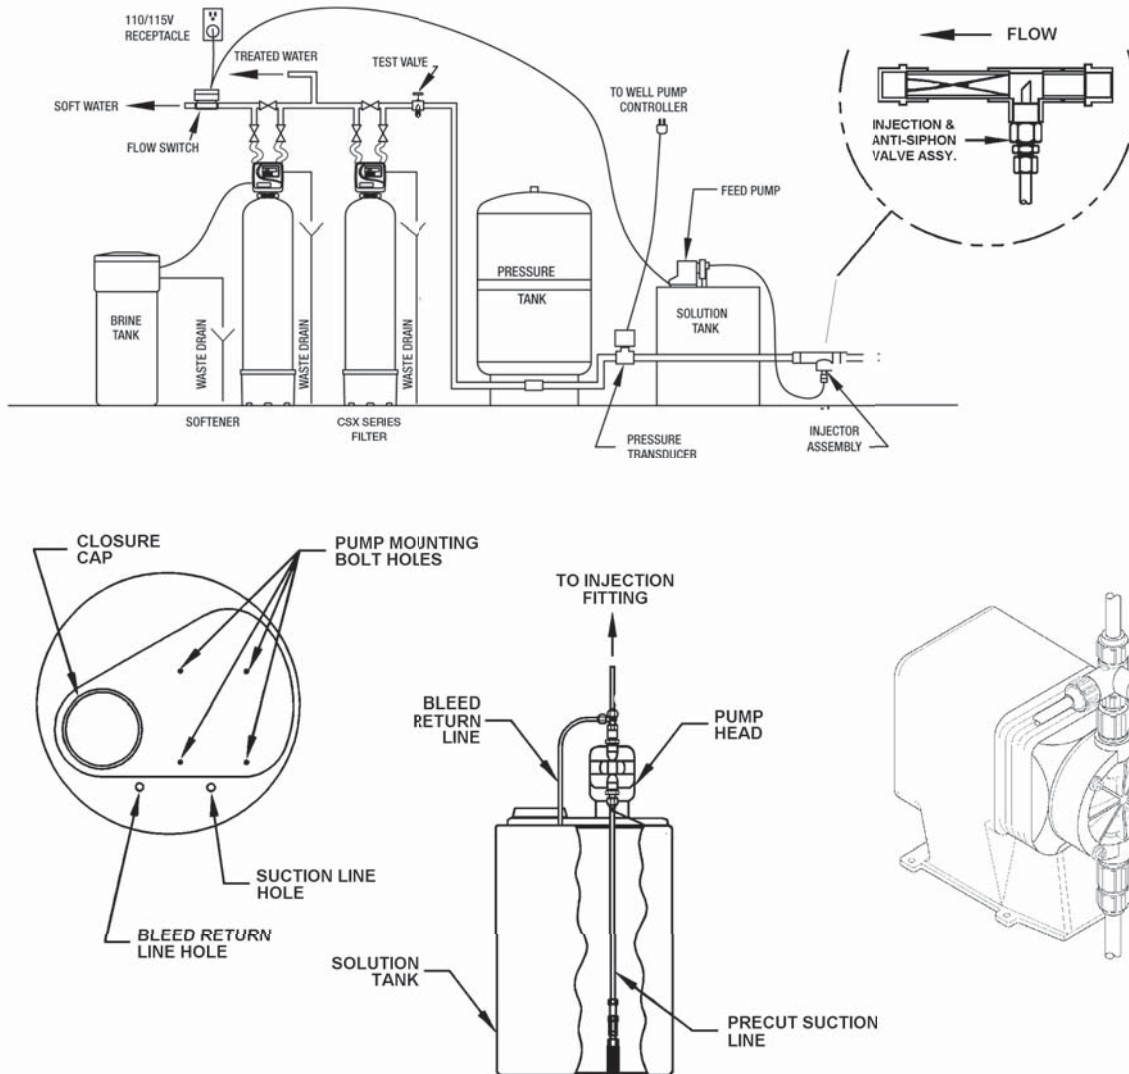

Figure 4. FEEDER SYSTEM SCHEMATIC
- 5) The injection point for feeding sulfur reduction media **MUST** be located between the well pump and the pressure tank. The injection fitting **MUST** enter the bottom of the supply line, rather than side or top entry. (Figure 4 on page 3-3)
The feed pump and solution tank require assembly prior to use (Figure 4).
- Install injection assembly in water supply line prior to pressure tank and pressure switch. Note: The position of the installation position and direction of the injection assembly as shown in Figure 4.